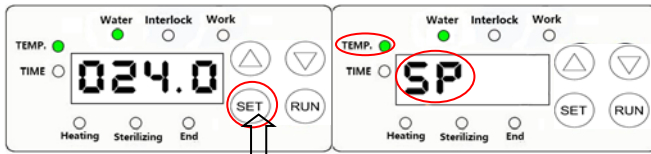
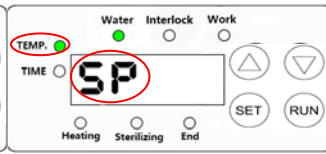
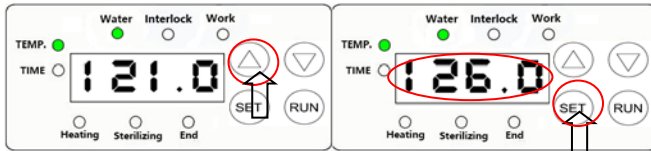
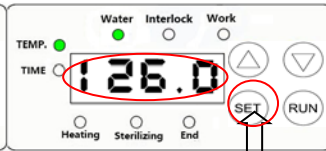

Figure 9
Figure 10
Figure 11
Figure 12
① Set the sterilization temperature: press the set key on the control panel (Figure 9), the sterilization temperature indicator lamp on the panel lights up, and SP appears in the display screen (Figure 10). Press the up and down keys   (Figure 11) to adjust the required sterilization temperature value. After the adjustment, press the set key twice to store and confirm the new sterilization temperature data (Figure 12).